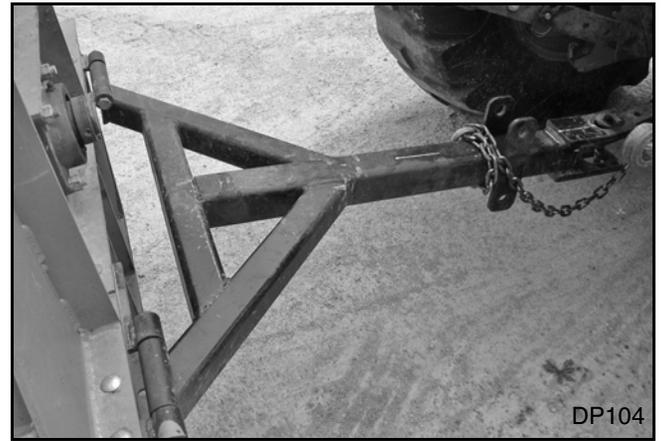

Figure 21. End Tow - Drawbar
3. Move tractor from operating position to end tow position. Hook hitch to drawbar. (See Figure 21).